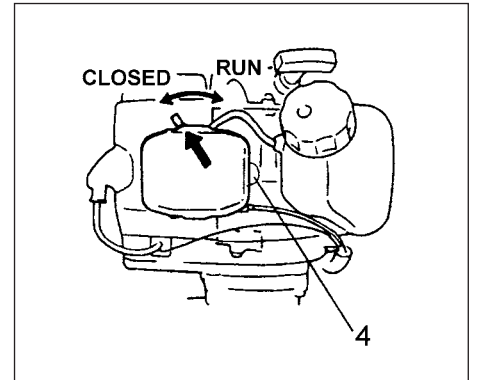

Fig. 2-3
- \* Push priming bulb (4) several times so that fuel flows through the bulb or return pipe. (If so equipped) (Fig. 2-3)
3. Set choke lever to CLOSED position. (Fig. 2-3)
5. When you hear the engine want to start, return choke lever to RUN position (open). Then pull recoil starter briskly again. (Fig. 2-3)